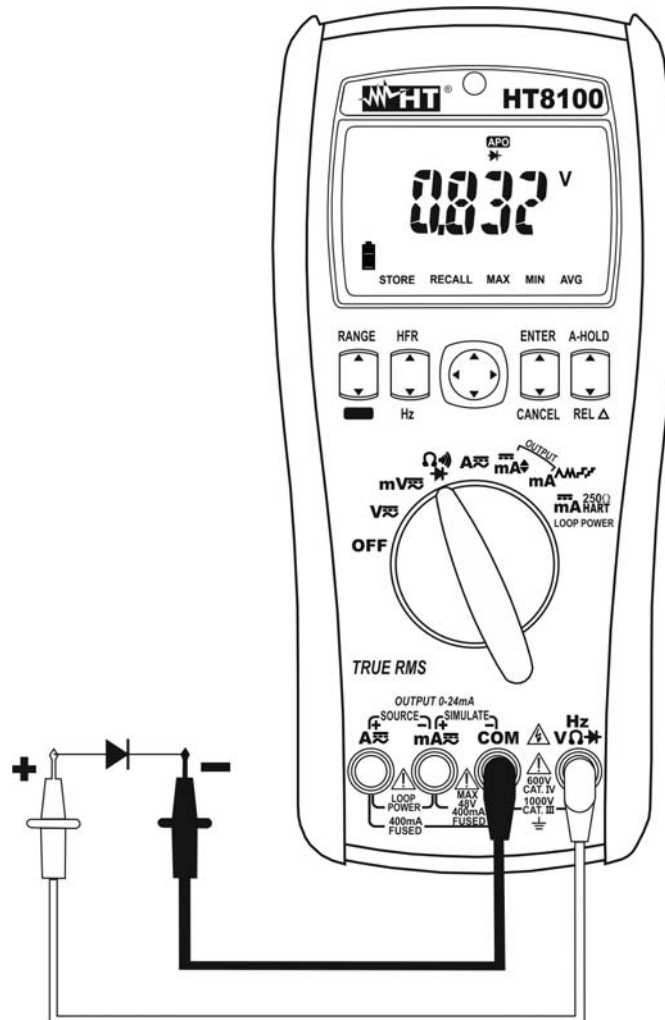

Fig. 7: Use of the instrument for diode test
4. Position the leads at the ends of the diode to be tested, respecting the indicated polarity (see Fig. 7). The value of directly polarized threshold voltage is shown on the display. For a good P-N junction, the instrument must show a value between 0.4 and 0.9V. If threshold value is equal to 0mV, the P-N junction of the diode is short-circuited.
5. If the instrument shows the message “**OL**”, the terminals of the diode are reversed with respect to the indication given in Fig. 7 otherwise, the P-N junction of the diode is damaged